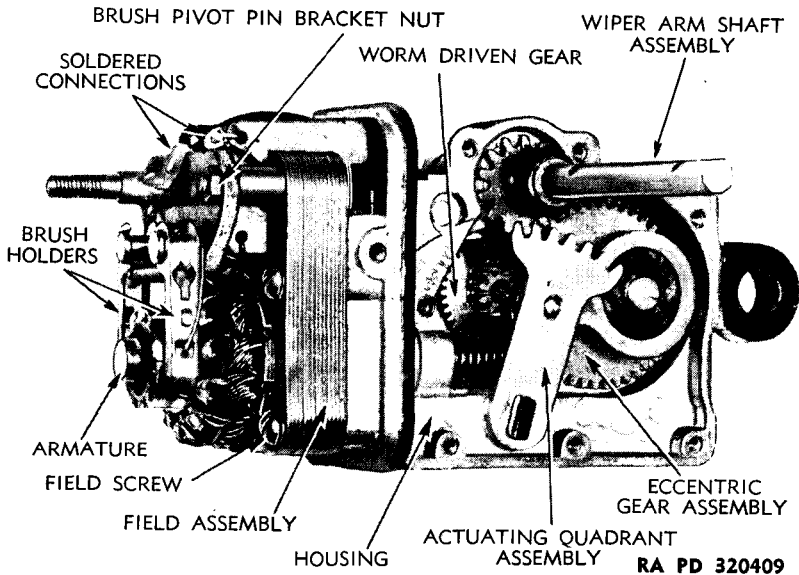

Figure 5 — Wiper Motor, Cover Removed
b. **Remove Gears** (fig. 5). Pull wiper arm shaft assembly from housing. Pull actuating quadrant and connecting rod
c. **Remove Armature** (fig. 5). Unhook brush holders from pivot pins, being careful not to break pigtails, and lay up over wire connection post out of way. Pull armature from housing. **NOTE:** *The gears must be removed before armature can be pulled from housing.*
d. **Remove Field Assembly** (fig. 5). Unsolder wires from connecting terminal and field coil connections at top of field coil, and tag for identification. Remove four screws and washers from field poles, and remove field assembly.